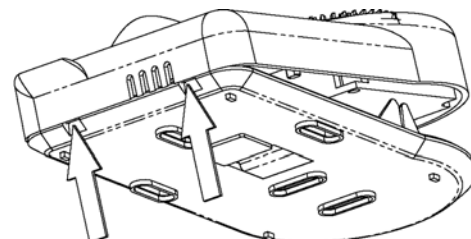

FIG. 6
9. Couple the thermostat, inclined by 45° on the right side as in fig. 6, so that the plastic teeth, shown with the arrows, fits in the relevant slots in the base.